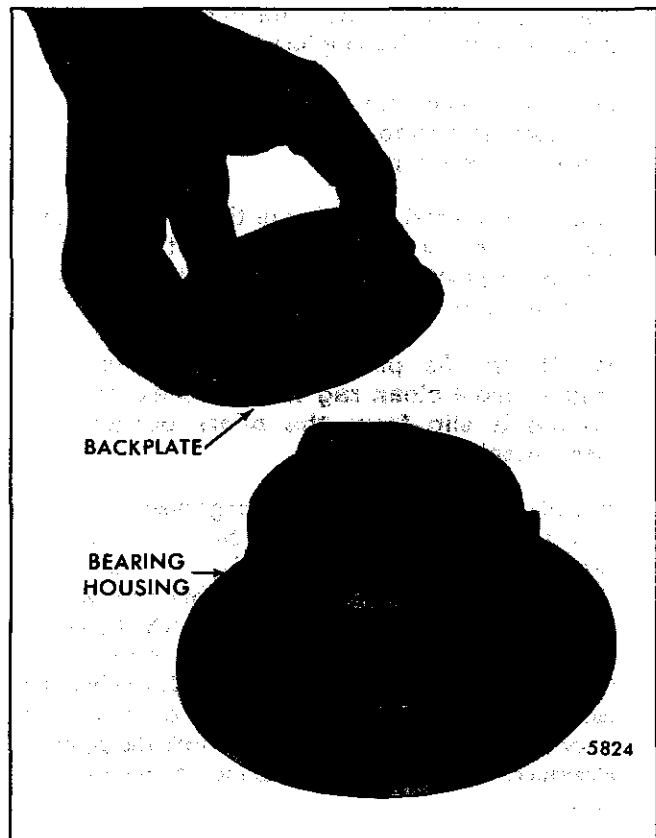

Fig. 14 – Assembling Bearing Housing, Gasket and Backplate
3. Position the bearing housing, turbine end up (Fig. 14). Then install a new gasket and the turbine backplate.